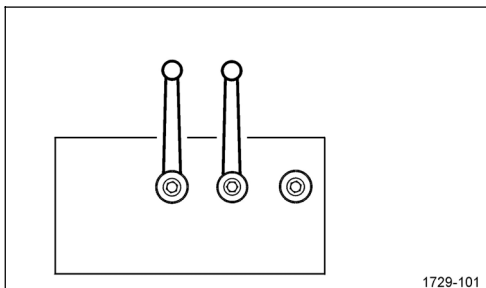

Figure 97
For daily use both ball valves must be parallel (see Figure 97)!
- ☐ (Left machine side, Figure 97:) The right ball valve of the hydraulic block must point again to the machine. The left ball valve of the hydraulic block must point to the machine.